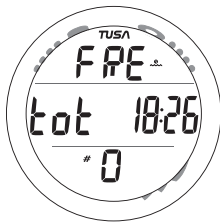

Fig. 103 - FREE SURF MAIN
- M (3) times (2 sec each time) while the Watch Default Time screen is displayed; or (1) time while the GAUG Surface Main screen is displayed, will access Free Mode.
**Free Surface Main**, information includes (Fig. 103) -